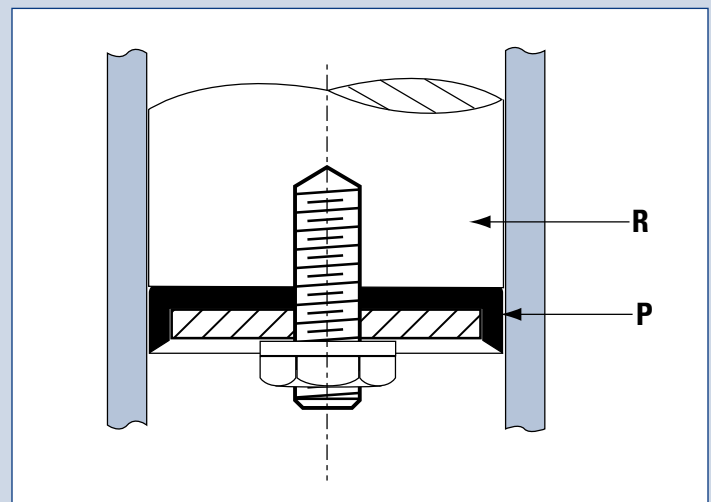

Figure 1
Figure 1 shows a Piston Cup packing (P) attached directly to a ram (R) without the use of a separate backing plate.